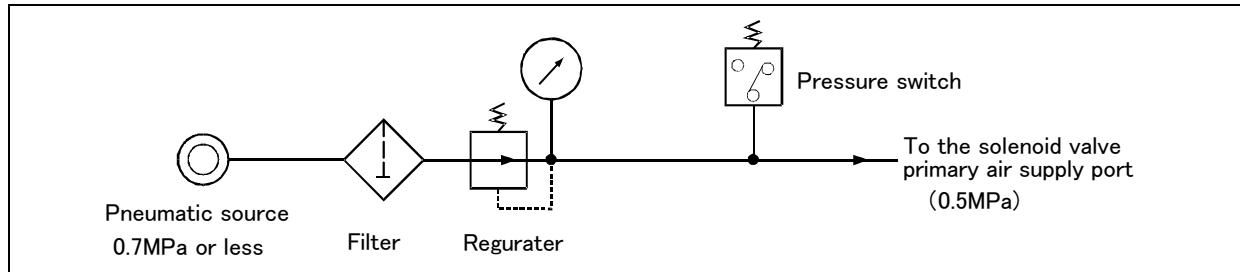

Fig.2-10 : Air supply circuit example for the hand
Fig. 2-10 shows an example of pneumatic supply circuitry for the hand.
- (1) Place diodes parallel to the solenoid coil.
- (2) When the factory pneumatic pressure drops, as a result of the hand clamp strength weakening, there can be damage to the work. To prevent it, install a pressure switch to the source of the air as shown in Fig. 2-10 and use the circuit described so that the robot stops when pressure drops. Use a hand with a spring-pressure clamp, or a mechanical lock-type hand, that can be used in cases where the pressure switch becomes damaged.
- (3) The optional hand and solenoid valve are of an oilless type. If they are used, don't use any lubricator.
- (4) If the air supply temperature (primary piping) used for the tool etc. is lower than ambient air temperature, the dew condensation may occur on the coupling or the hose surface.